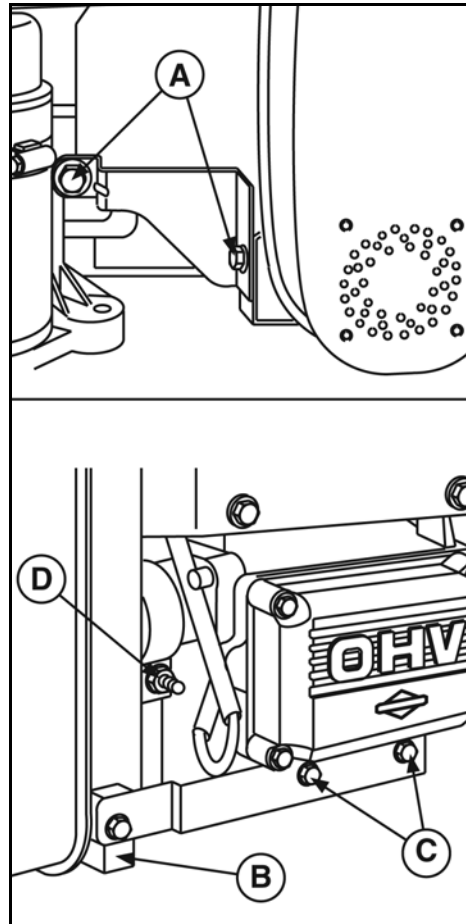

Figure 26
3. Install muffler supports and start but do not tighten screws (A, B, C, Figure 26).
6. Torque muffler clamp (D) to values listed in Section 12 - Engine Specifications.